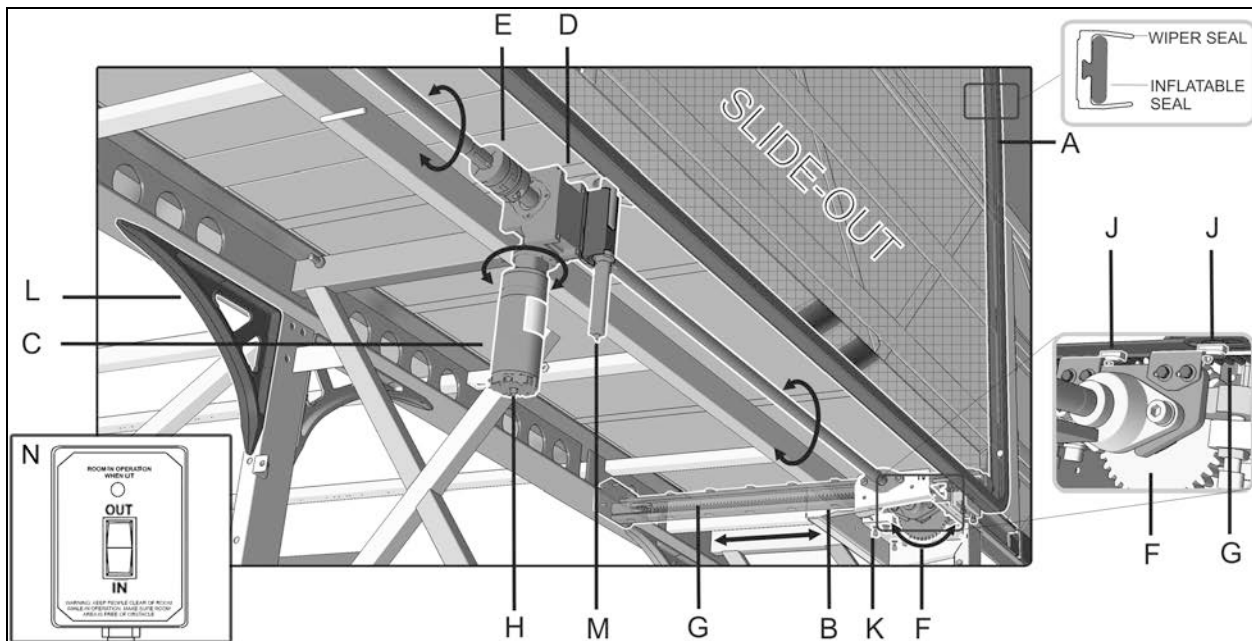

FIGURE 2: TYPICAL MECHANISM OVERVIEW
Each slide-out is moved in and out on rails resting on linear bearings Figure 2, (B). Power comes from one electrical motor (C). It is either oriented vertically or horizontally. The motor drives a right angle speed reducing gearbox (D).